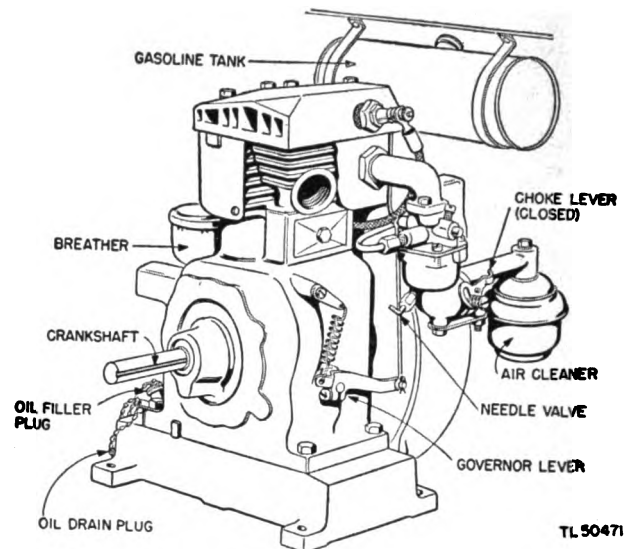

Figure 11. Briggs and Stratton engine model AP, type No. 208286, on Reel Units RL-26-B and RL-26-C.
d. **REEL UNITS RL-26-B AND RL-26-C.** Reel Units RL-26-B and RL-26-C are equipped with Briggs and Stratton engines model AP, type No. 208286. (See fig. 11.) These engines are fundamentally the same as furnished previously